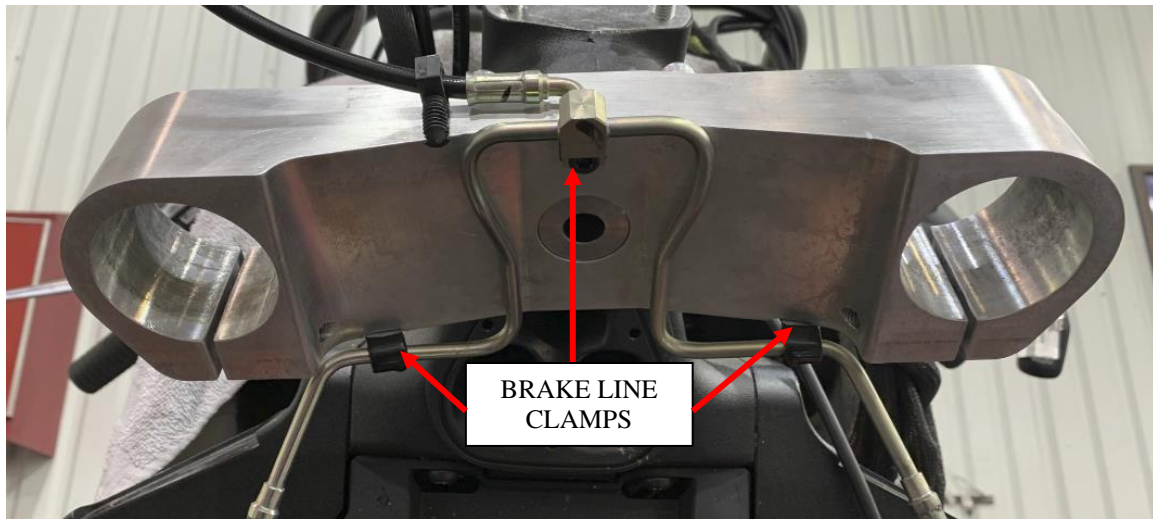

Figure 24: Install brake line clamps.
7. Reinstall the brake line bracket on the lower tree. Apply blue Loctite 242 and torque to 8-10 ft-lbs. See Figure 24.